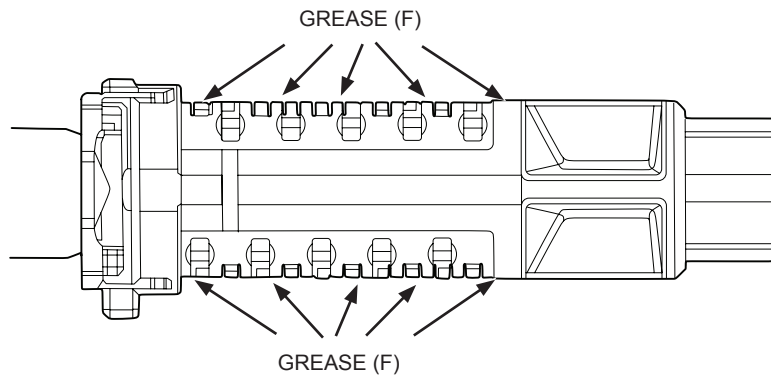

FIGURE 5
6. Insert the key into the keyhole and verify that all installed tumblers are flush with the Cylinder subassembly (D) exterior surface (Refer to Figure 5). Do not pull out the Key; if you do, the tumblers will fall out.
7. Apply grease to the outer surface of the Cylinder subassembly (D) with the key still inserted, ensuring that the areas above and in between the tumblers are coated (Refer to Figure 5).